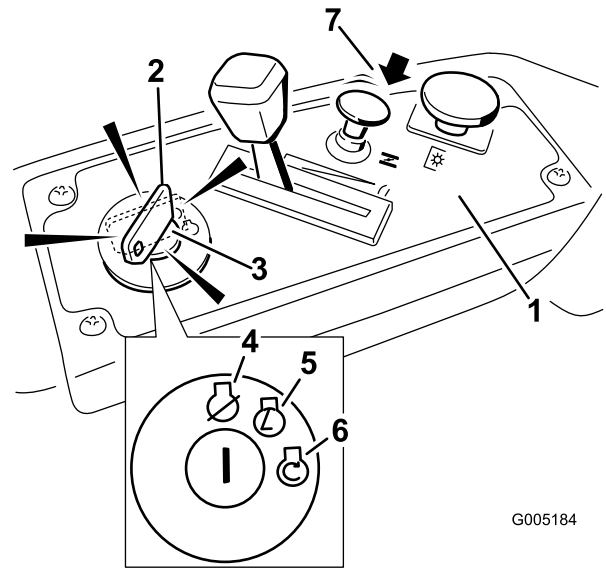

Figure 13
- Turn the ignition key to Start to energize the starter. When the engine starts, release the key (Figure 13).
- After the engine starts, push down on the Choke control (Figure 13). If the engine stalls or hesitates, pull up on the Choke control and let the engine run for a few seconds. Then push down on the Choke control. Repeat this as required.